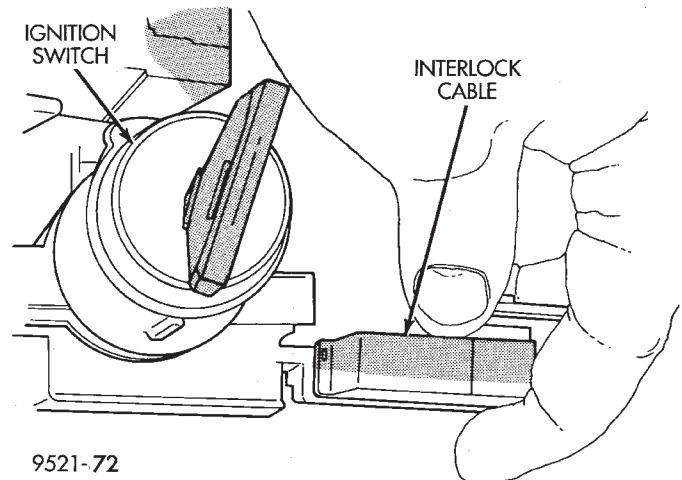

Fig. 20 Interlock Cable At Housing
- (1) Route interlock cable into lower dash panel.
- (2) Turn the ignition switch to the RUN position.
- (3) Install the interlock cable into the interlock housing at the steering column (Fig. 20). Verify the cable snaps into the housing.